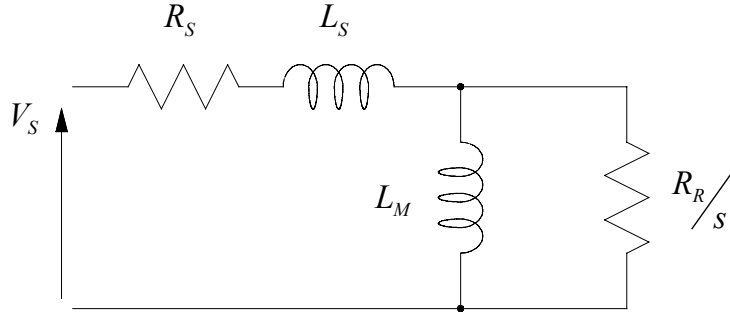

Figure 10, Per-phase equivalent circuit of an induction machine (with negligible rotor leakage inductance)
- (b) For the induction machine model in **Figure 10** show that the torque equation $T = 3P\Psi I_R \sin(\delta)$ where P is the number of pole-pairs and Ψ is the magnitude of the air-gap flux-linkage, becomes: